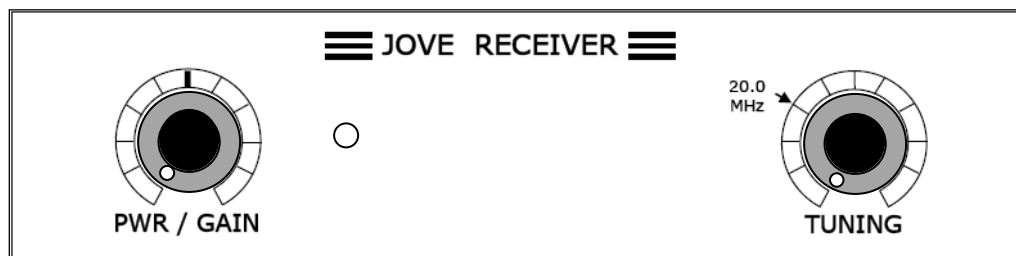

Figure 10. Jove receiver front panel with knob alignment.
3. ☐ Install the two knobs. Align them so that when the control is turned full counterclockwise, the index mark is near the 7 o'clock position (Figure 10). Once the knob set screw is tightened down, the full counterclockwise rotation and the full clockwise rotation of the knob index mark should be equal-spaced from the 6 o'clock position.